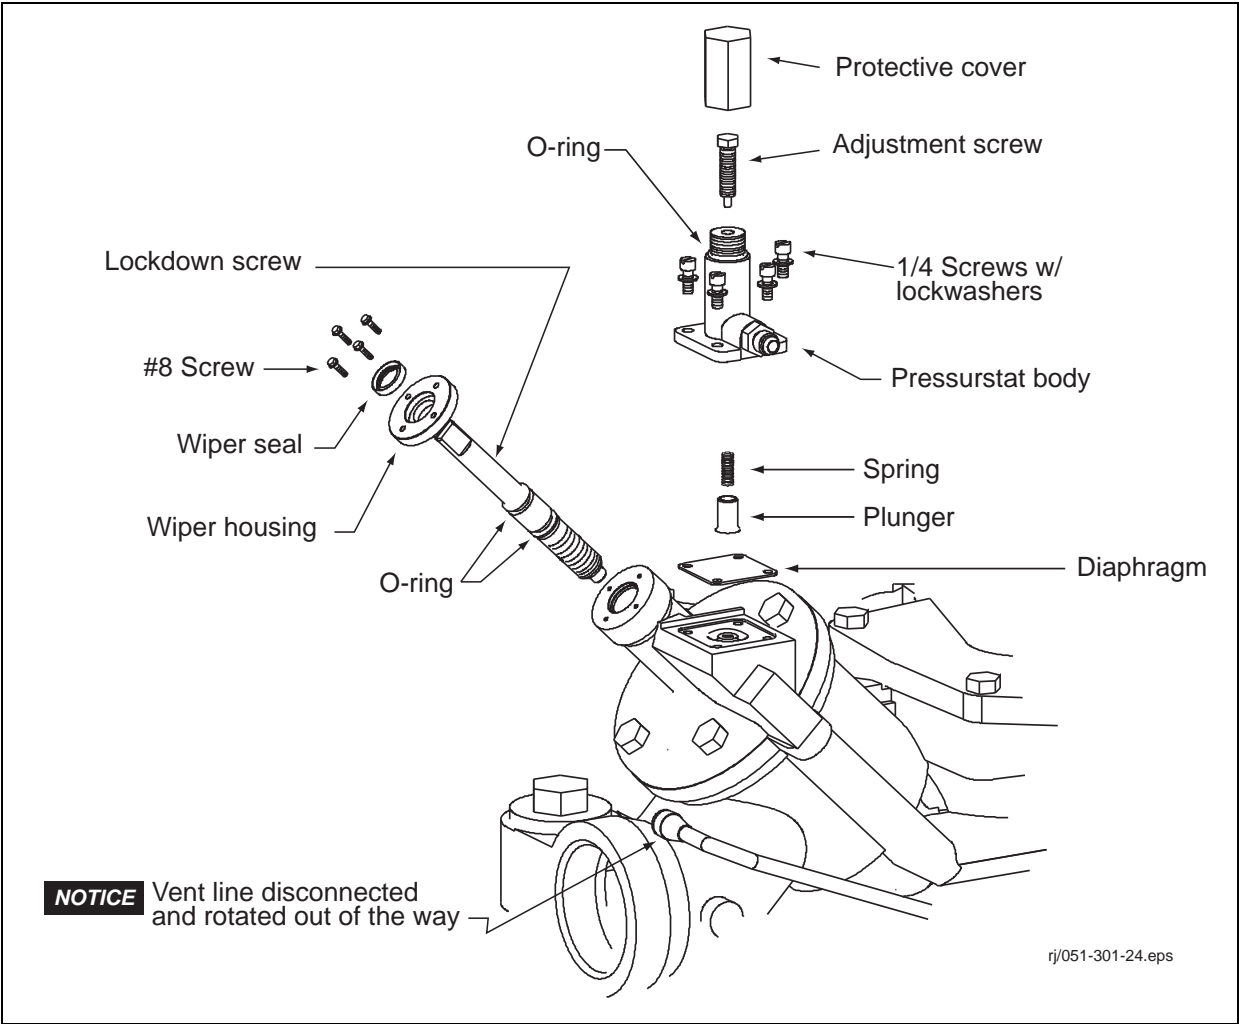

Figure 22. Pressurstat And Check Valve Lock-Down Screw Assembly
2. Lock down screw removal (see Figure 22).
- c. Using a flat piece of metal at least 1/2 inch larger than the OD of the wiper, carefully drive the new wiper into the wiper housing, orienting the wiper as shown in Figure 22.